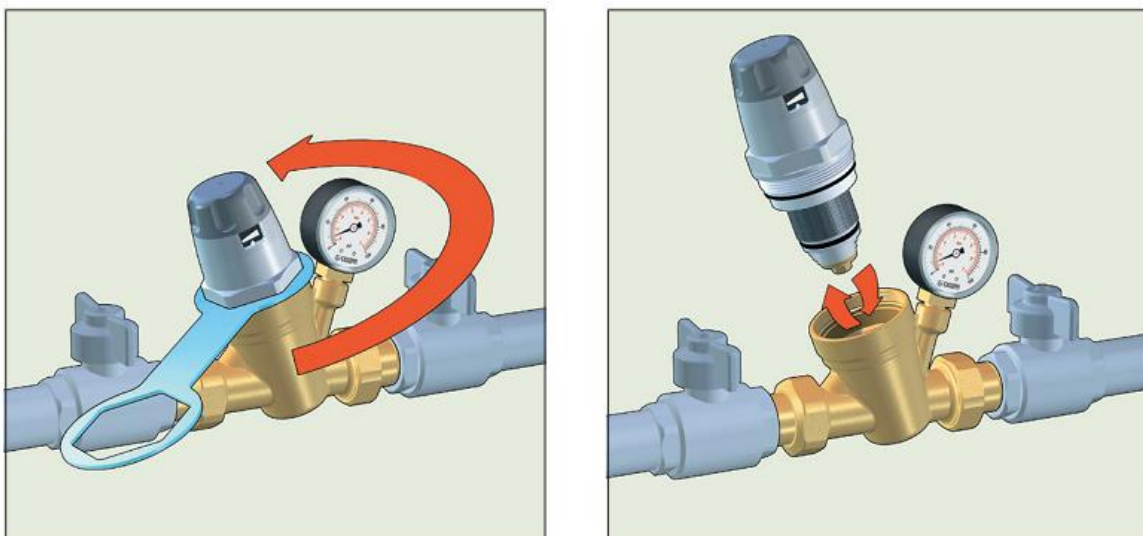

Figure 5. Removal of Self-Contained Cartridge
2. Remove the cartridge shown in **Figure 5** and clean the stainless-steel filter.